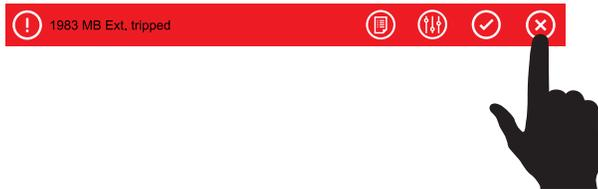
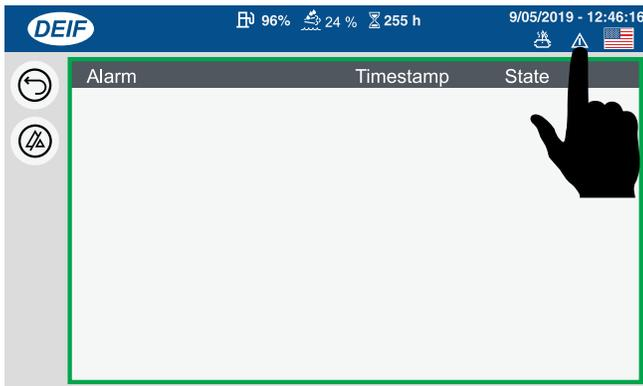

Figure 205. Alarm Pop-Up
Figure 206. Alarm Screen (Alarm Icon Button)
1. When a fault is detected, the **Alarm pop-up** (Figure 205) will be shown on the touch display.
2. Press the **X button** (Figure 205) on the pop-up screen to close the pop-up and view the **Alarm screen** (Figure 206).
3. Press the **Alarm Icon button** (Figure 206) located in the upper right-hand corner of the Alarm screen to view a list of active alarms.
6. Press the **Alarm Icon button** (Figure 206) whenever it is present on the status bar to identify specific alarms that are active. Perform steps 1–5 to clear any alarms that may appear during operation. Refer to Table 16 for a complete list of fault codes.